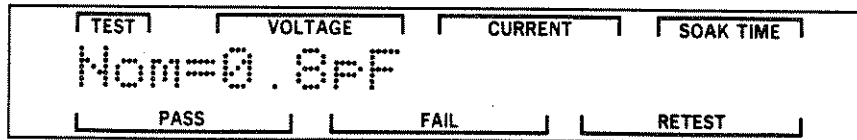

Figure 5-18. Nominal Capacitance Screen
STEP 7. Press the LEFT pushbutton, then the DOWN pushbutton to display the Nominal Capacitance and Charge Rate screen. Press the RIGHT or LEFT pushbutton until only the Nominal Capacitance is displayed. Press the INC or DEC pushbutton to set this to the nominal value of the sample capacitor. Refer to Figure 5-18 for an example of this screen.